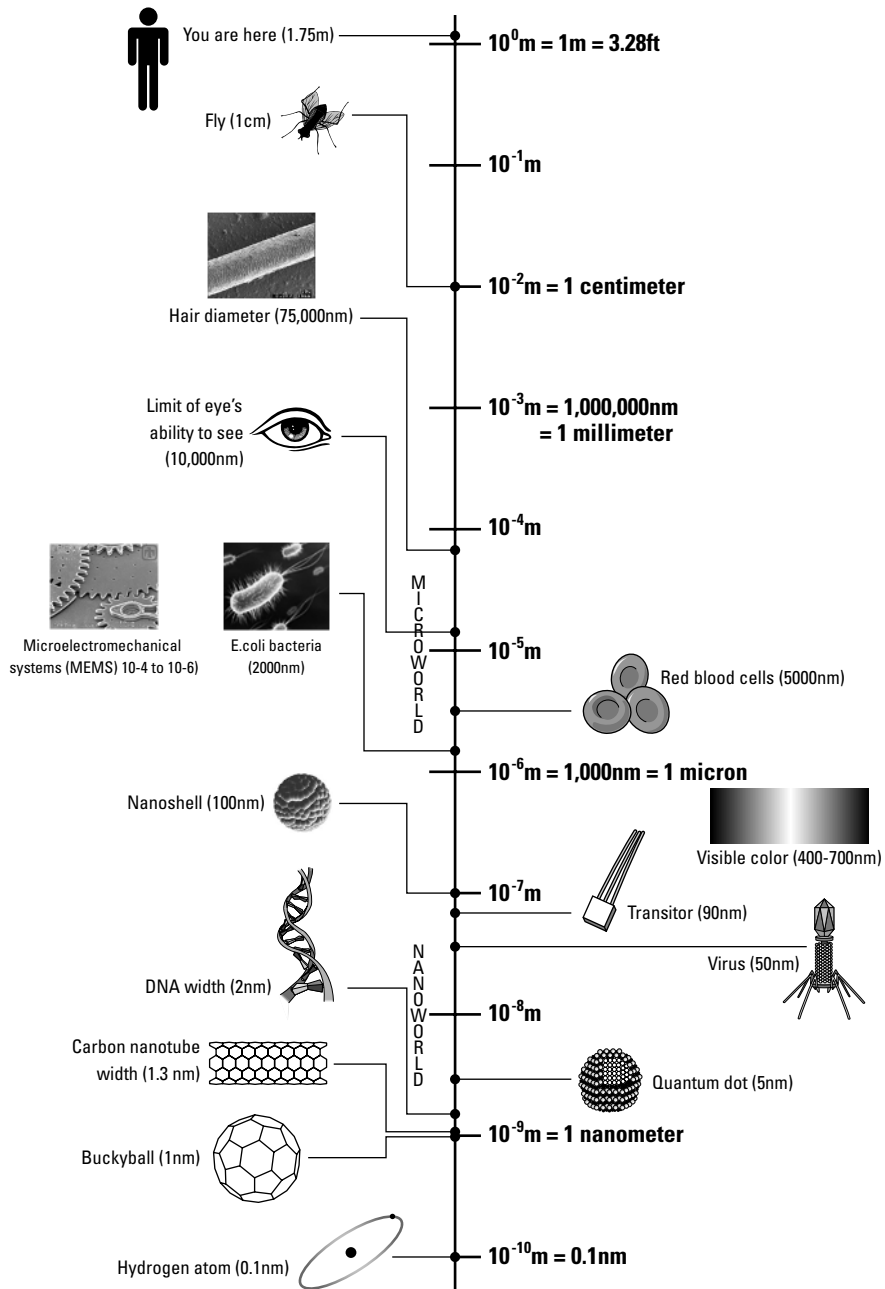

Figure 1-1: Size comparisons, from you (1.75 meters, or approximately 5 ft. 7 in.) all the way down to the hydrogen atom (0.1 nm).
Nano, Greek for “dwarf,” means one billionth. Measurement at this level is in *nanometers* (abbreviated “nm”) — billionths of a meter. To put this into perspective, a strand of human hair is roughly 75,000 nm across. On the flipside of the concept, you’d need ten hydrogen atoms lined up end-to-end to make up 1 nm. Figure 1-1 illustrates the differences in scale that range from you all the way down to one hydrogen atom.
- ✔ **Carbon Nanotube Transistor (1998):** A carbon nanotube (refer to Figure 1-1) — a graphite sheet rolled into a tube — comes in two main forms, metallic and semiconducting. The carbon nanotube was discovered in 1991 and within only seven years, was used for shuttling electrons across two electrodes. Not only is it incredibly small (nano-scale), but it also uses less energy and gives off less heat by using few electrons to indicate whether it's on or off. (For more on carbon nanotubes, see Chapter 4.)
- ✔ **Nanostructures:** In 1985, Robert F. Curl Jr., Harold W. Kroto, and Richard E. Smalley discover buckminsterfullerenes (buckyballs — refer to Figure 1-1), soccer-ball-shaped molecules made of carbon and measuring roughly 0.7nm wide. (For more on buckyballs, see Chapter 4.)